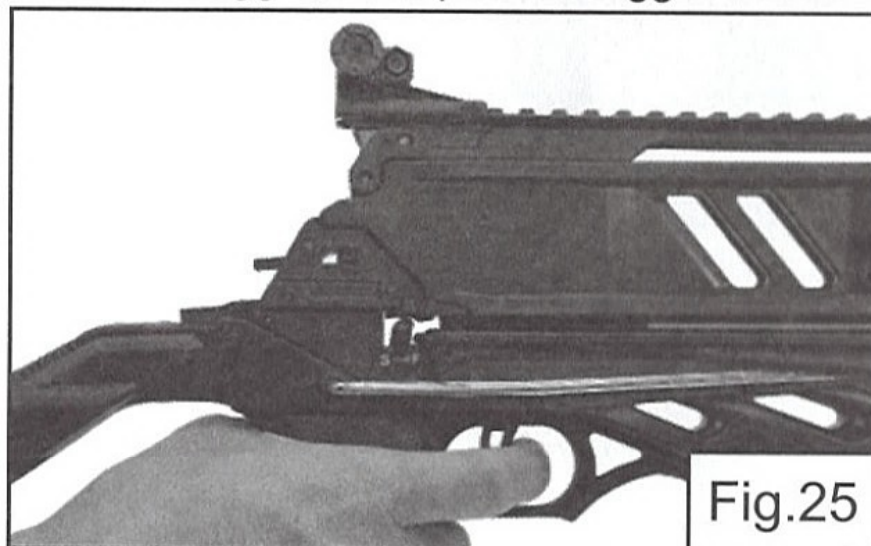

Fig.25
2. Place your finger on the trigger, then pull the trigger smoothly. (Fig.25)